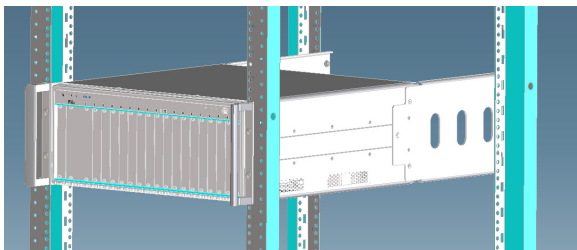

Figure 6. M9018B and M9019A chassis suspended in a rack using the Y1215C.
- Y1215C Flush mount rack kit (Figure 6): Complete kit including rack flanges, handles, and attachment hardware. The kit suspends the chassis in a Keysight rack using only 4U of rack space. Rack rails may be needed in a non-Keysight rack.